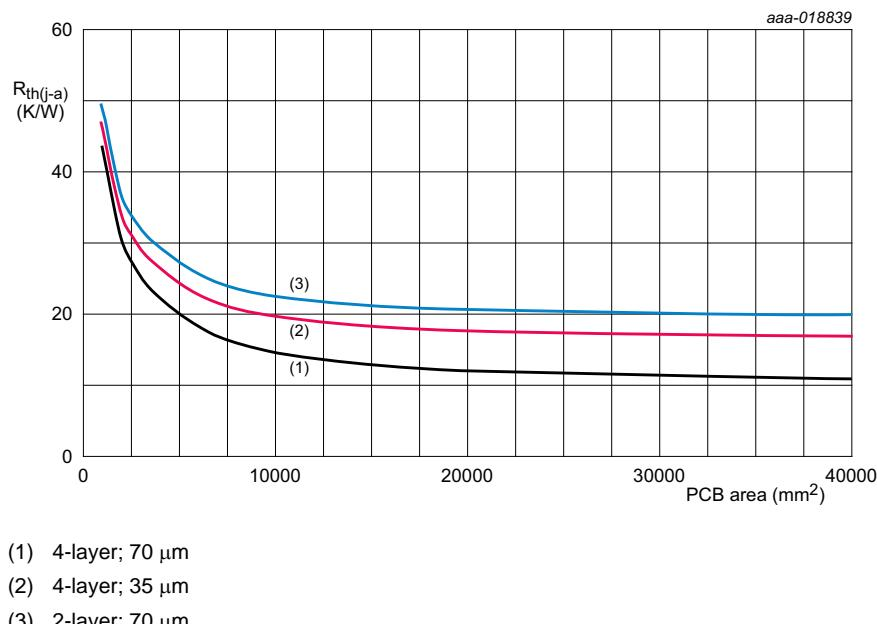

Fig 16. Typical trend lines for the $R_{th(j-a)}$ versus the PCB area
- Making the PCB larger enhances thermal performance of the application significantly and making the PCB too small brings the application into thermal trouble. Thermal radiation is an important factor to move heat out of the NXQ1TXA5 component and the PCB. Board surface area is more or less proportional to the capability of the board capability to lose heat through radiation. Figure 16 shows a graph that gives an impression of how $R_{th(j-a)}$ (thermal resistance from the NXQ1TXA5 IC silicon to the ambient) varies with PCB area. Trend lines for 2-layer/70 μm copper, 4-layer/35 μm copper and 4-layer/70 μm copper are given.
The NXQ1TXA5 demo board that was used as illustration in this application note has a PCB area of approximately 2000 mm^2 , giving the board an R_{th} value of approximately 30 K/W. Figure 16 shows that a smaller board can rapidly cause thermal issues for the assembly. It also shows that increasing the PCB area beyond a certain point (for this application say beyond 10000 mm^2) only ensures minimal thermal improvement. In all cases, the dissipating IC was right in the center of the PCB. The other recommendations listed above were also implemented.